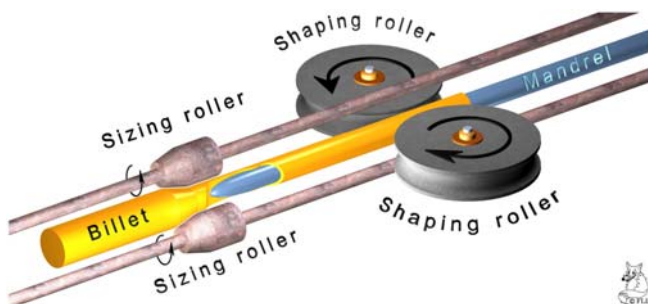

FIGURE 2.1 Sizing seamless pipe.
**Seamless pipe** is formed by piercing a solid, near-molten, steel rod, called a billet, with a mandrel to produce a pipe that has no seams or joints. Figure 2.1 depicts the manufacturing process of seamless pipe.